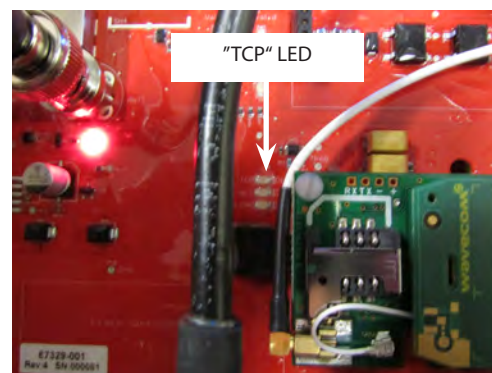

Figure 57: Backhaul antenna LED
- Turn on the gateway AC power. On the circuit board in the lower left quadrant, next to the SIM card slot, look for the LED labeled "TCP" (*Figure 57*).